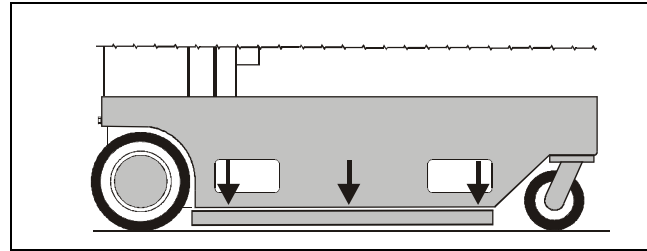

Figure 2-2. Pot-Hole-Protection Bars Lowered.
- b. Ensure Pot-Hole-Protection device is fully engaged (bars down on sides) when the platform is elevated (*See Figure 2-2.*)